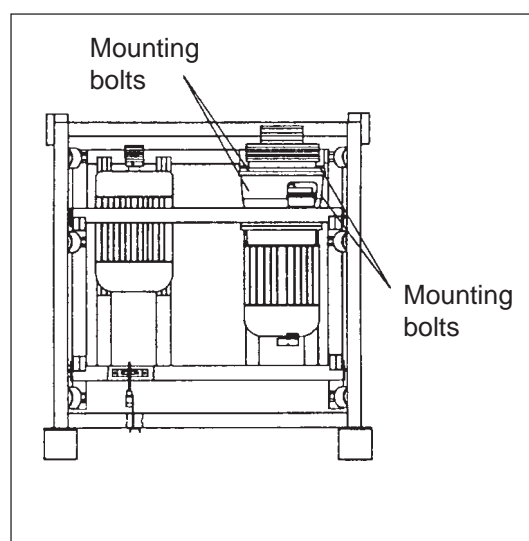

Figure 9. Attachment of gear housing
7. Unscrew the gear housing bolts from the motor mount (Figure 9).